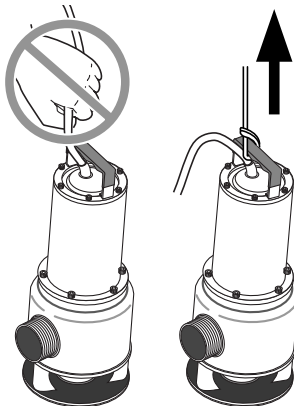

Figure 1
**▲WARNING** Risk of electrical shock. Can burn or kill. Do not lift pump by power cord. See “Lifting Pump” and Figure 1.
**▲WARNING** **Risk of electrical shock. Can burn or kill.** Do not lift pump by power cord. See "Lifting Pump" and Figure 1, on Page 4.